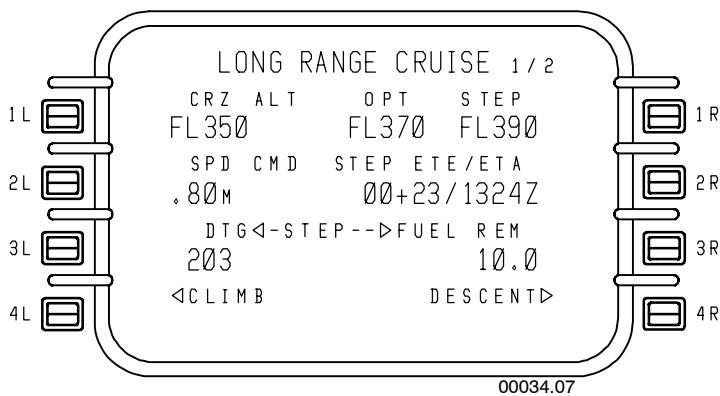

Figure 5-32
- **CRUISE 1/2** - Figure 5-32 has a title that reflects the CRUISE speed mode selected during PERF INIT. In this example, the speed mode is long range cruise.